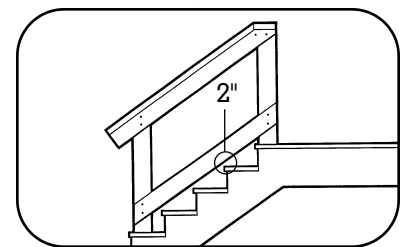

Fig. 40
- Once the top Side Rail has been installed, place one Side Rail at the bottom of each Rail section (Fig. 40). Pre-drill and place two 2-1/2" stainless steel or galvanized deck screws 1" from the end of each Side Rail and fasten into each 4x4 post – be sure to level and square the bottom Side Rail. **There should be no more than 2" from the leading edge of the step surface to the bottom edge of the Side Rail*** (Fig. 40).